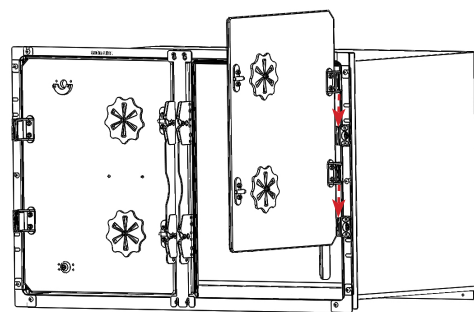

FIGURE 2.21 - Door Installation
**STEP 8:** Repeat STEP 7 to install the conversion door on the right-hand side of the cage. See FIGURE 2.21